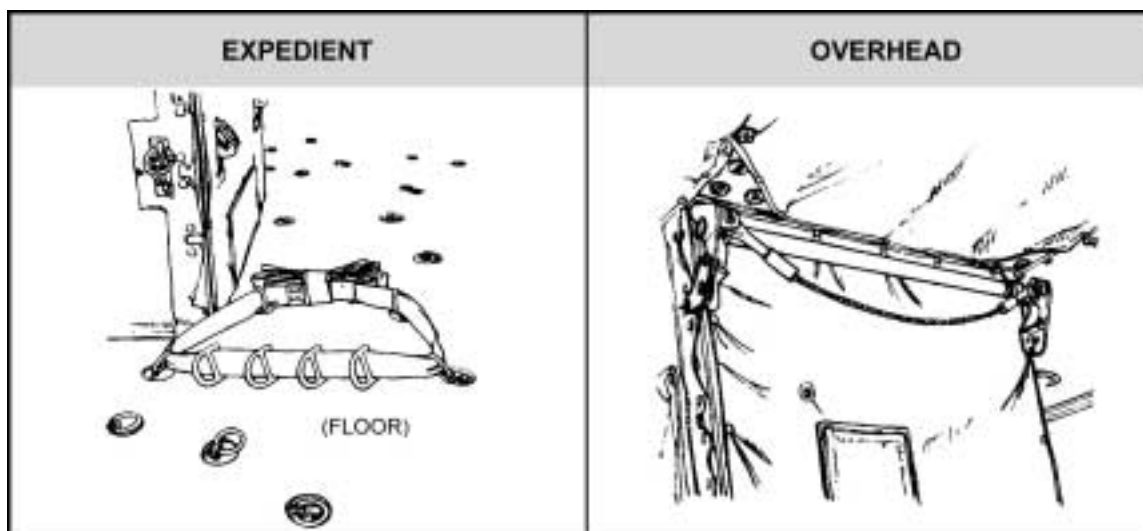

Figure 17-3. UH-1 anchor line system.
b. **Anchor Line Systems.** Two anchor line systems are available with the UH-1H aircraft for airdrop of personnel. They are the standard overhead system and the expedient system (Figure 17-3). The expedient system (A-7A anchor line cable assembly) consists of a cotton A-7A strap, four D-rings, and four connector snaps (TM 10-1670-298-20&P authorized the fabrication of the A-7A strap from Type X cotton webbing). Nylon A-7A straps may be used with cotton buffers on the D-rings and connector snaps.